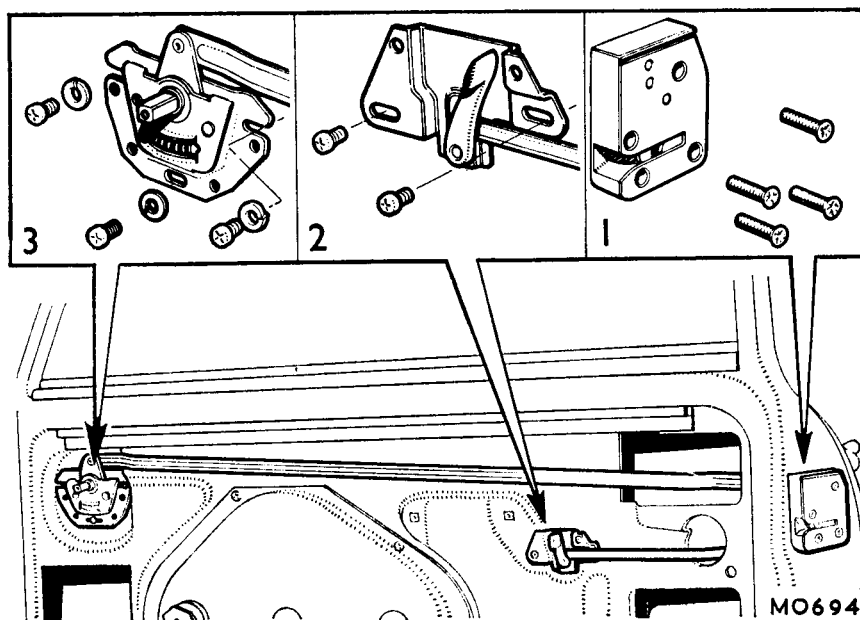

Fig. Rb.5
- 2. Remove the screws securing the latch unit and the lock remote control (Fig. Rb.5).
- 3. Remove the interior locking control securing screws (Fig. Rb.5).